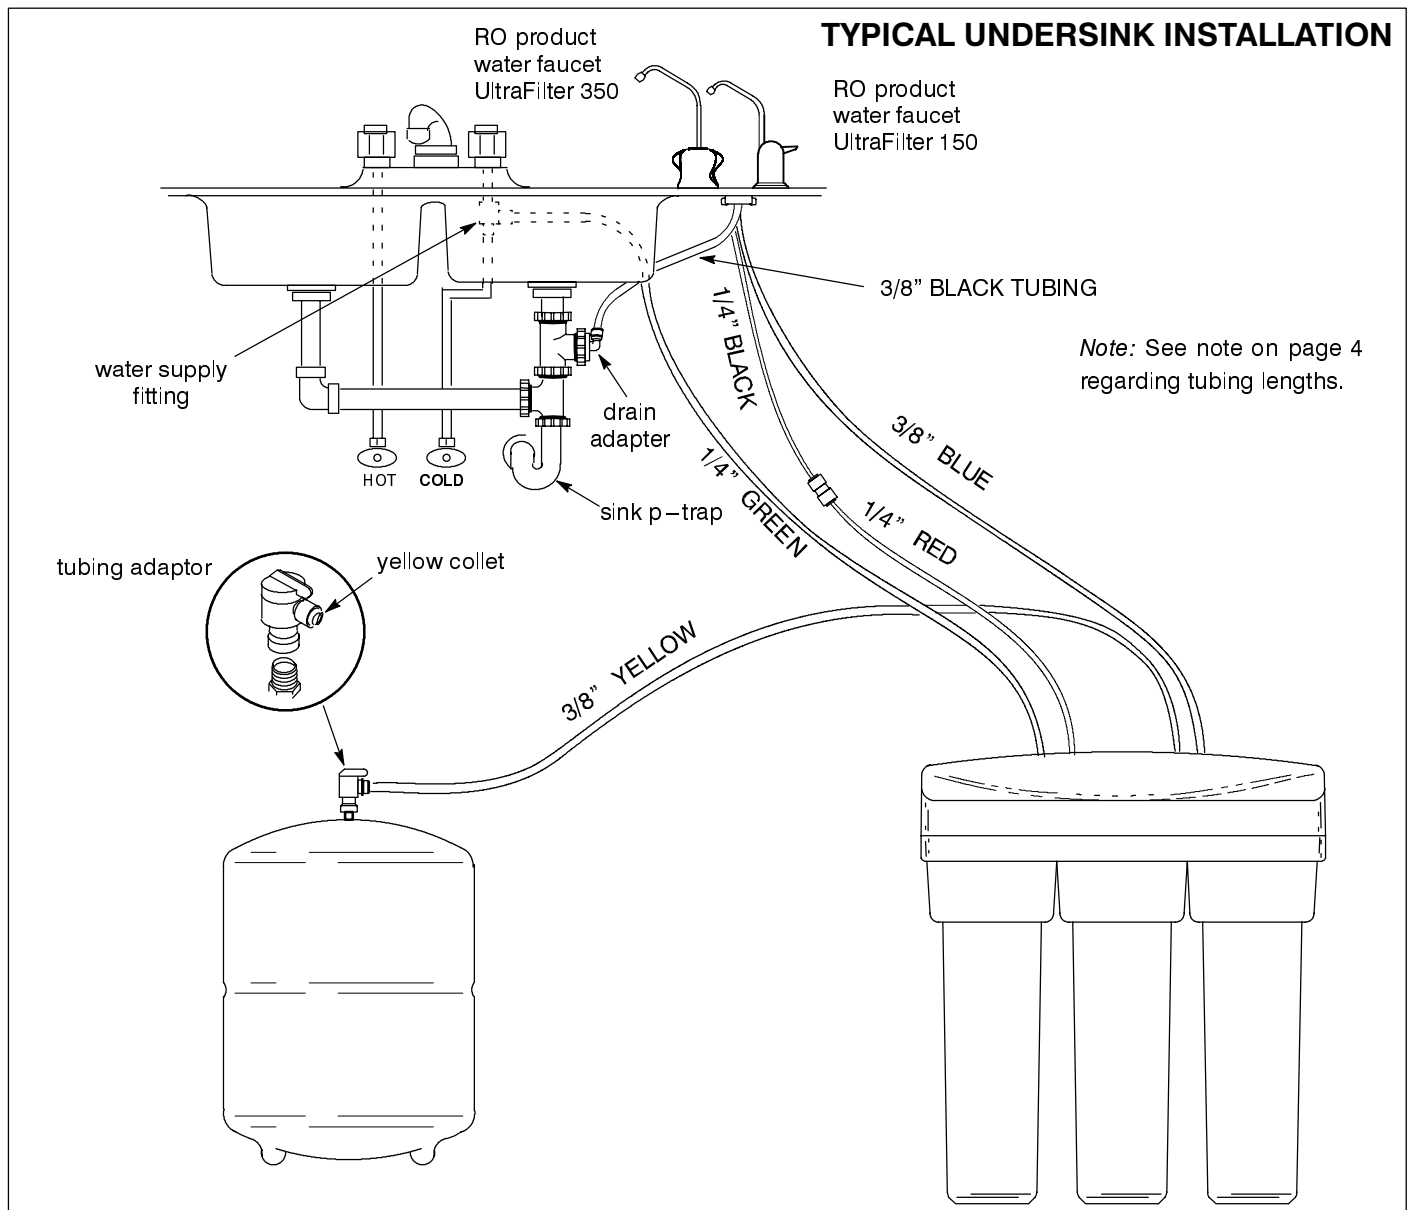

Figure 10
Check and comply with local plumbing codes as you plan, then install a cold feed (supply) water fitting. The fitting must provide a leak-tight connection to the RO 1/4" tubing (see Figure 10, page 10). A typical connection using the included water supply fitting is shown in Figure 3A below. An optional connection, using standard plumbing fittings (not included), is shown in Figure 3B.
1. Select one of the following places for the faucet. Be sure it will fit flat against the surface, and there is space underneath for tubing (see Figure 10, page 10).
1. CONNECT DRAIN TUBING, FAUCET TO DRAIN ADAPTER: Referring to Figure 10, run the loose section of **black 3/8"** tubing from the faucet to the drain adapter, with a black collet, installed on page 6. Cut this tubing as needed to **route in as straight of a run as possible, without loops, dips, low spots or kinks.** Cut the end of the tubing square. Then push all the way into the fitting. Pull on the tubing to be sure it's held firmly in the adapter fitting. See page 16 for tubing connection instructions.
Water from the cold supply pipe enters the RO assembly prefilter first (Figure 10, page 10, and schematic, page 13).